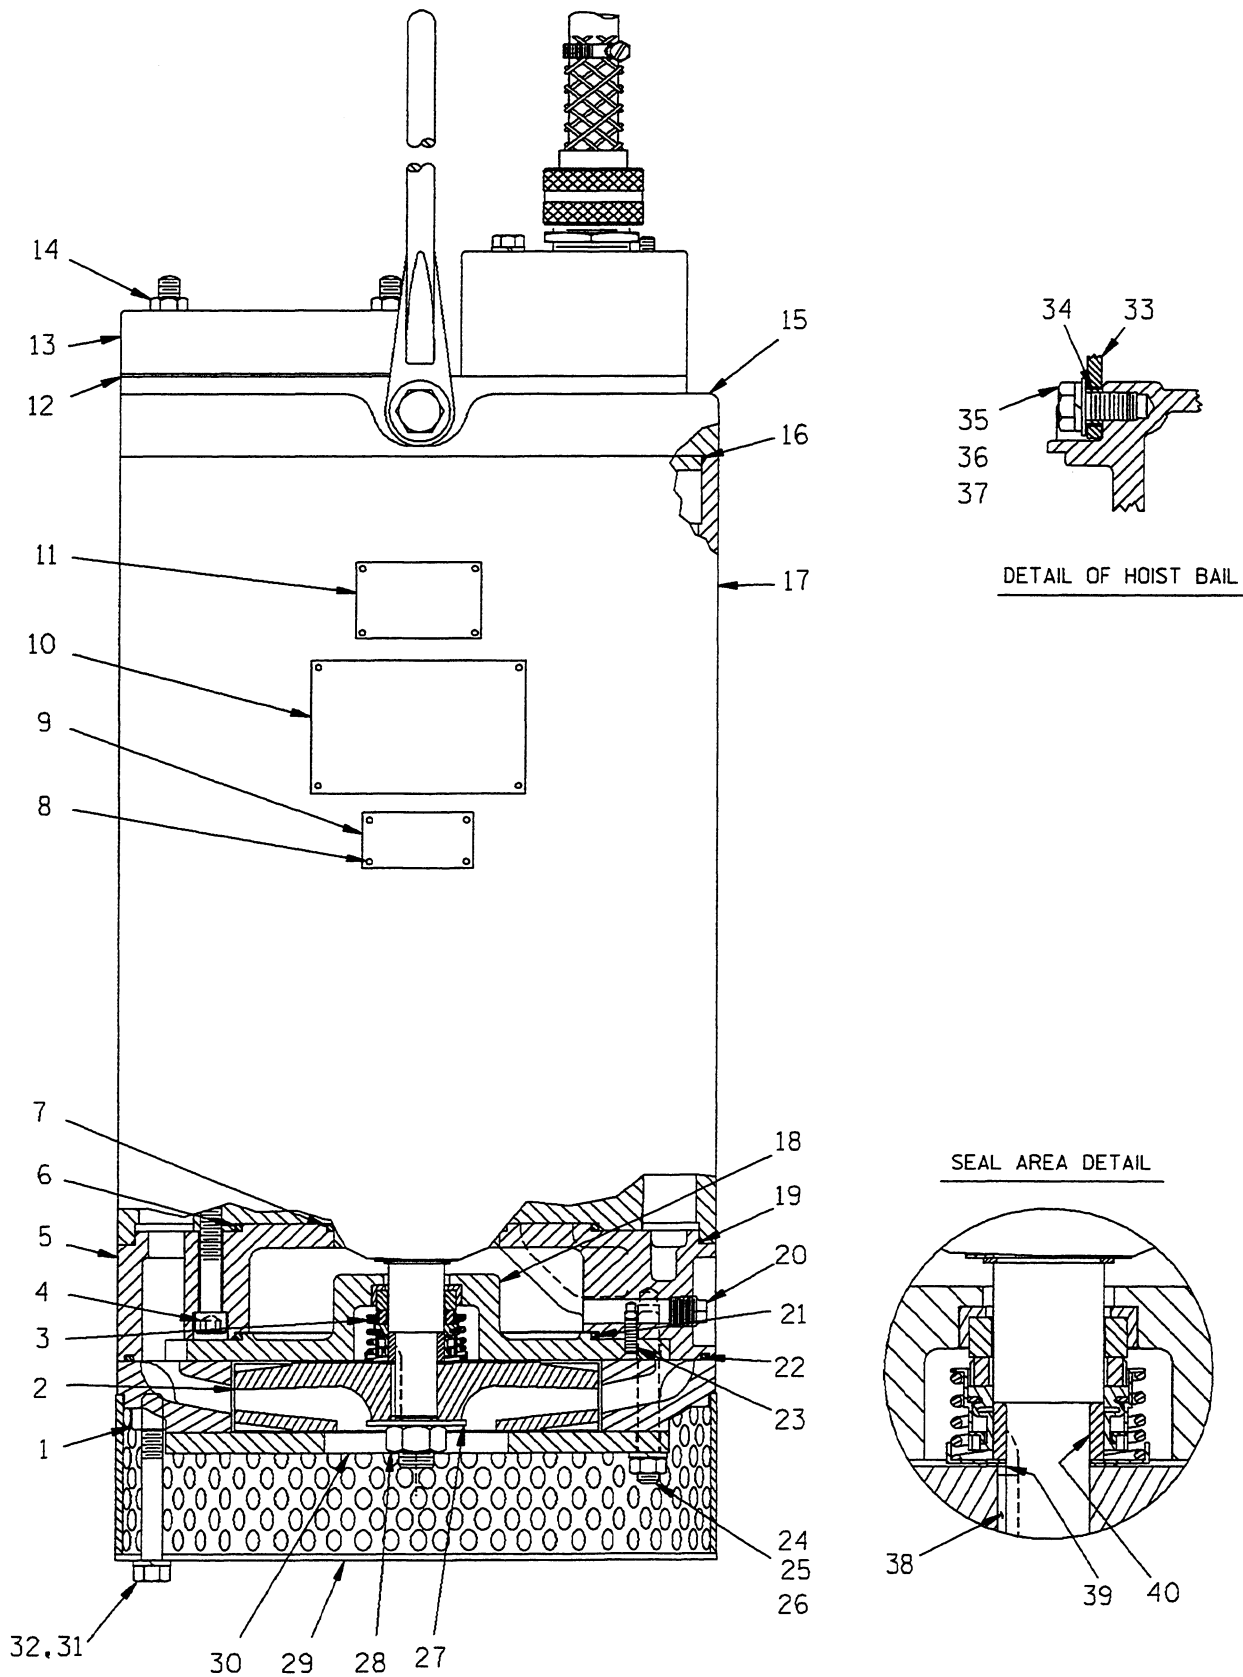
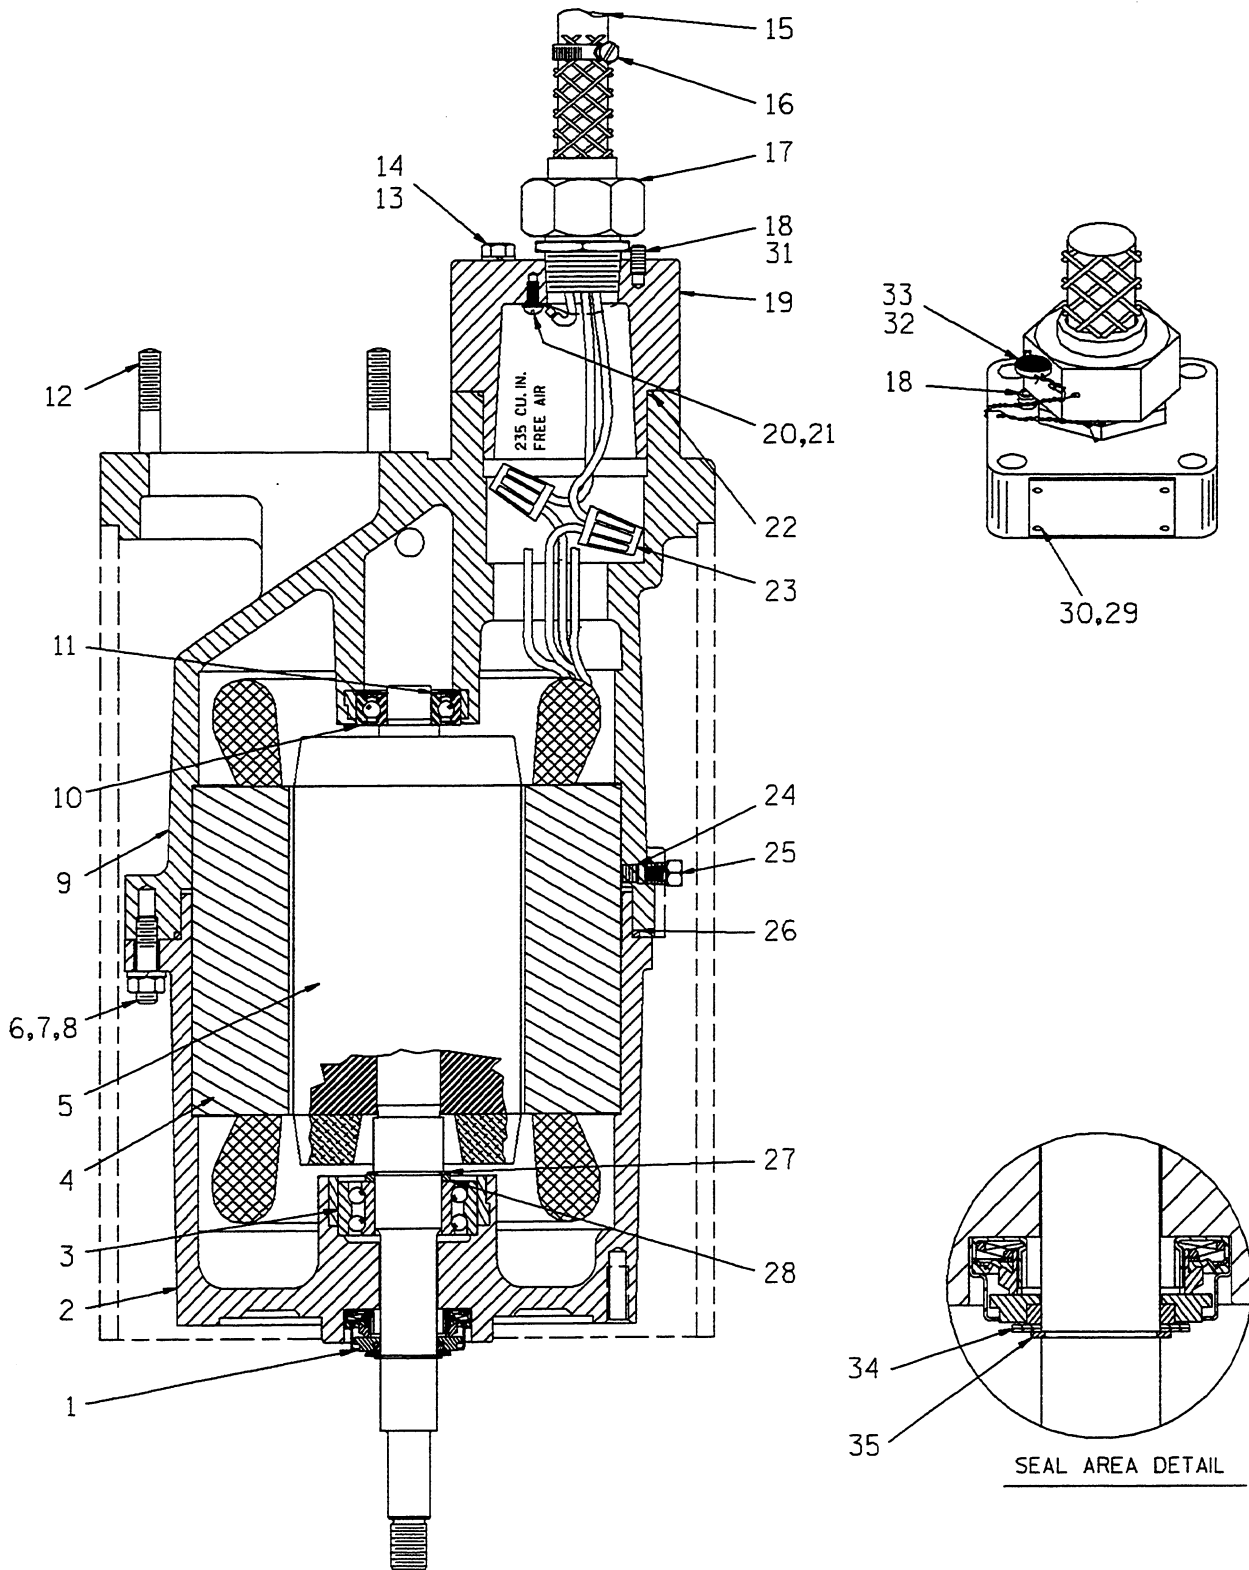

Figure C-1. Typical SM4C, SM4D And SM4H Series Pump Assembly
Figure C-2. SM4C, SM4D And SM4H Pump Motor Assembly
The maintenance and repair instructions in this manual are keyed to the sectional views, Figures C-1 and C-2, and the corresponding parts identification lists. Refer to the separate Parts List Manual for replacement parts.
References are to Figure C-1 and Figure C-2.
(Figure C-2)
It is recommended that the pump be positioned upside-down during disassembly. To hold the pump in the inverted position, screw a pipe in the discharge flange (13) and clamp it in a large vise. Be careful not to damage the terminal housing and cable assembly (19 and 15, Figure C-2) while in this position. Use adequate equipment and personnel to safely handle the pump until it is secured. If inverting the pump is not practical, lay the pump on its side and secure it to prevent rolling.
(Figure C-2 And C-3)